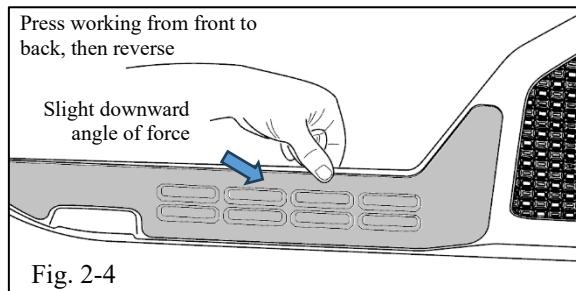

Fig. 2-4
- (e) Using 2 fingers and a slight downward force, pinch the door panel pocket and Protector in a continuous slow motion along the entire top edge from front to back (Fig 2.4). Once complete, reverse direction and repeat working from back to front.
(e) Again, as in Fig 2-4, using 2 fingers and a slight downward force, pinch the door panel pocket and Protector in a continuous slow motion along the entire top edge from front to back. Once complete, reverse direction and repeat working from back to front.